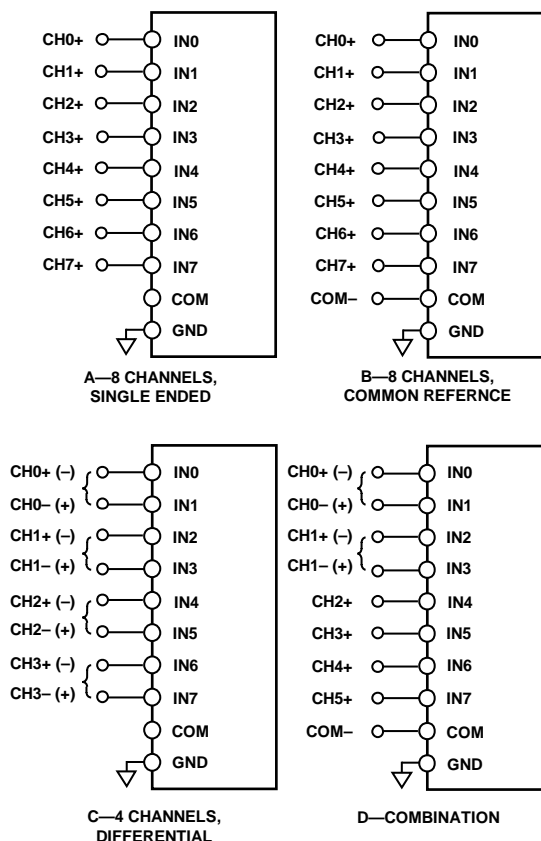

Figure 32. Multiplexed Analog Input Configurations
Figure 32 shows the different methods for configuring the analog inputs with the configuration register, CFG[12:10]. Refer to the Configuration Register, CFG section for more details.
- Figure 32 (A), single-ended referenced to system ground, CFG[12:10] = 111₂. In this configuration, all inputs (IN[7:0]) have a range of GND to V_{REF} .
- Figure 32 (B), bipolar differential with a common reference point, COM = $V_{REF}/2$, CFG[12:10] = 010₂. Unipolar differential with COM connected to a ground sense; CFG[12:10] = 110₂. In this configuration, all inputs IN[7:0] have a range of GND to V_{REF} .
- Figure 32 (C), bipolar differential pairs with the negative input channel referenced to $V_{REF}/2$, CFG[12:10] = 00X₂. Unipolar differential pairs with the negative input channel referenced to a ground sense, CFG[12:10] = 10X₂. In these configurations, the positive input channels have the range of GND to V_{REF} . The negative input channels are a sense referred to $V_{REF}/2$ for bipolar pairs, or GND for unipolar pairs. The positive channel is configured with CFG[9:7]. If CFG[9:7] is even, then IN0, IN2, IN4, and IN6 are used. If CFG[9:7] is odd, then IN1, IN3, IN5, and IN7 are used, as indicated by the channels with parentheses in Figure 32 (C). For example, for IN0/IN1 pairs with the positive channel on IN0, CFG[9:7] = 000₂. For IN4/IN5 pairs with the positive channel on IN5, CFG[9:7] = 101₂. Note that for the sequencer, detailed in the Channel Sequencer section, the positive channels are always IN0, IN2, IN4, and IN6.
- Figure 32 (D), inputs configured in any of the preceding combinations (showing that the AD7682/AD7689 can be configured dynamically).